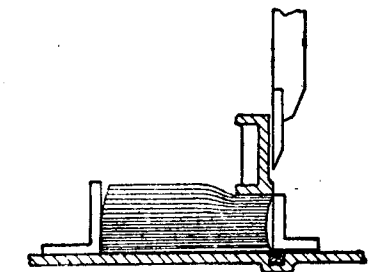

FIG. 7
(6) When cutting thick cardboards with too fine a knife bevel, a *concave cutting face* (FIG. 7) may occur. This can be corrected by grinding the knife to a 22° bevel and keeping the knife sharp.